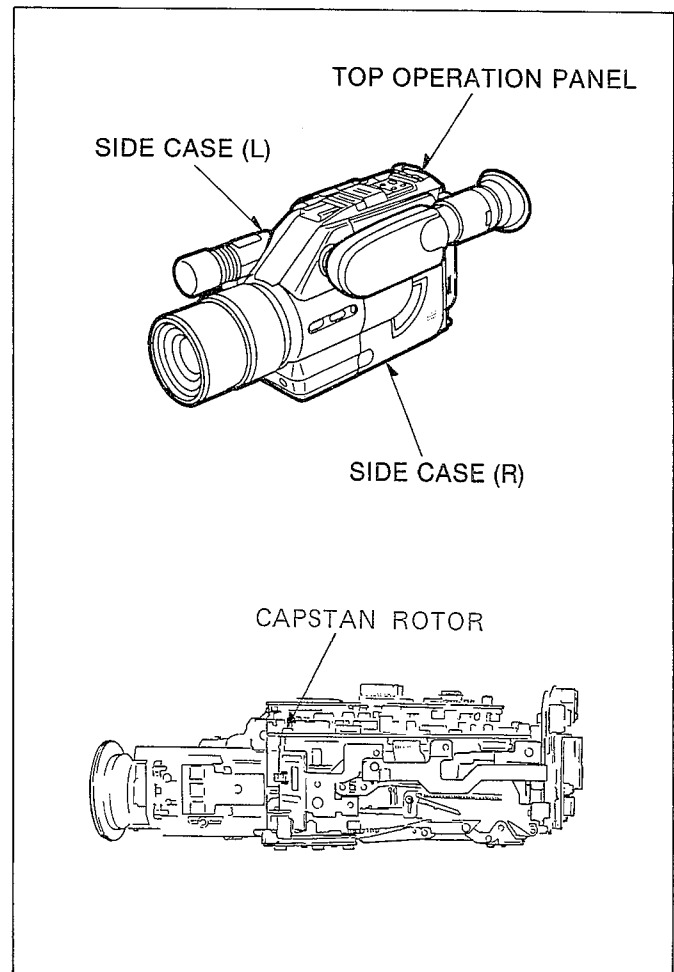

Fig. T11
- (2) In Case that Tape is not rewound Completely but mechanism is fully unloaded.
* Remove the case as shown in Fig.T11.
* Eject it as procedure (1).